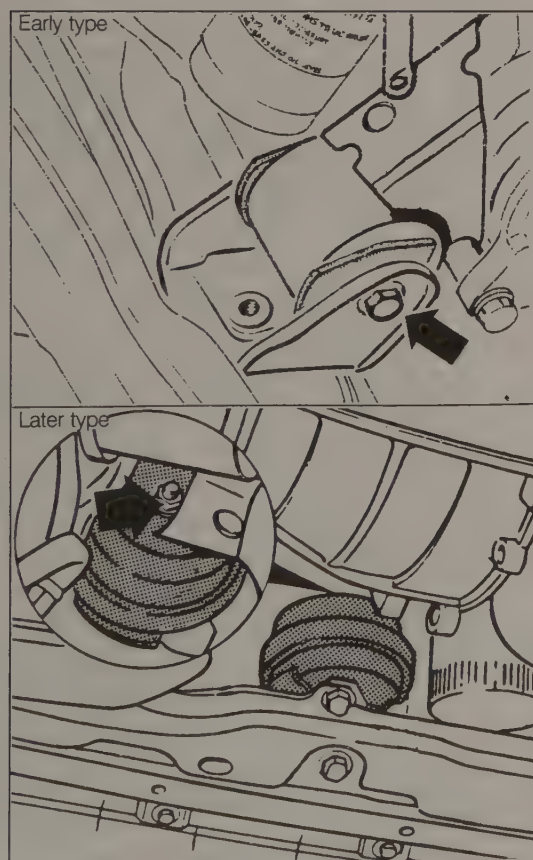

Fig. 5-9. Front engine mounting (arrows). Early type (top) uses rubber bushing. Later type (bottom) is hydraulic mount.
19. Remove the front engine mounting nut or bolt as shown in Fig. 5-9.